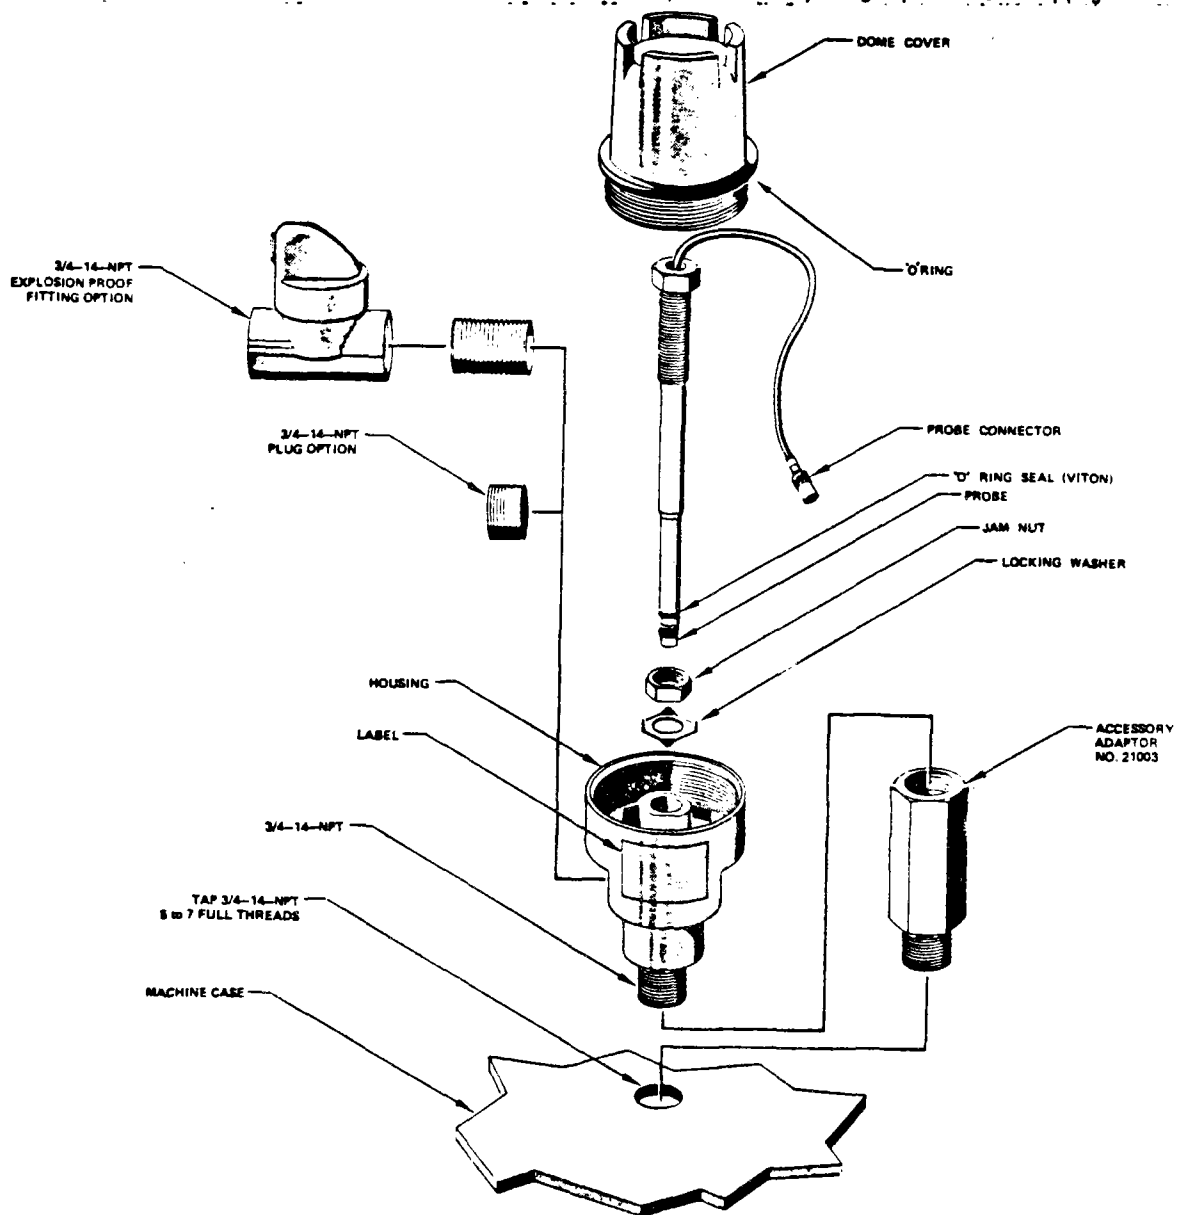

Figure 1
INSTALLATION Refer to Figure 1 for installation information.
- f. With machine shaft stopped, carefully hand turn the sleeve (with probe, locking washer, and jam nut) into the housing (see Figure 1). Allow the probe cable to turn with the sleeve to prevent cable damage. Do not allow probe tip to accumulate any thread compound or foreign conductive material during installation because signal distortion may result. Adjust gap in accordance with BNC Probe and Proximator Manual TW8019610.